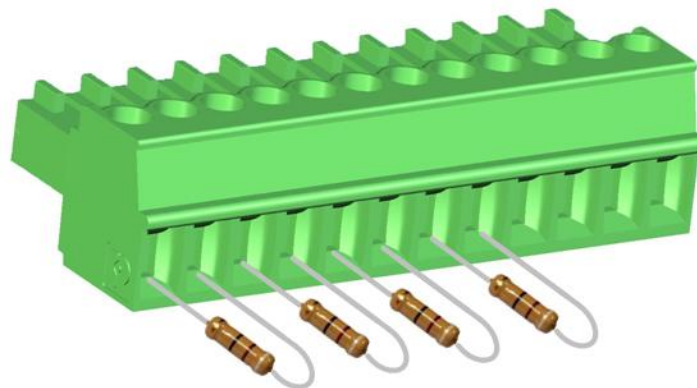

Figure 15c
- If any of the Tamper Switches are not being used, that pair of connectors must be connected with one of the supplied terminating resistors. Please wire resistors as show in figure 15c so as to avoid any or the resistor leads touching.